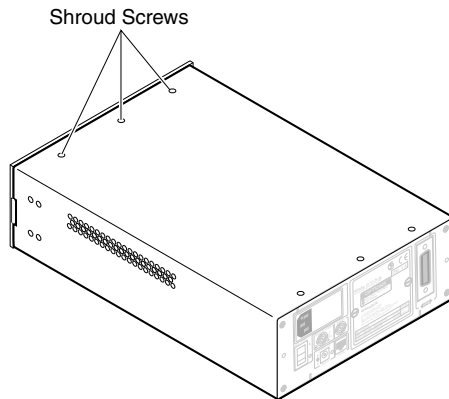

Figure 3-7 Top Front Shroud Screws
- 4 Use a #1 Phillips screwdriver to remove the three 4-40 x 3/16-inch countersunk shroud screws from the top of the Counter near the front edge of the shroud (see Figure 3-7).